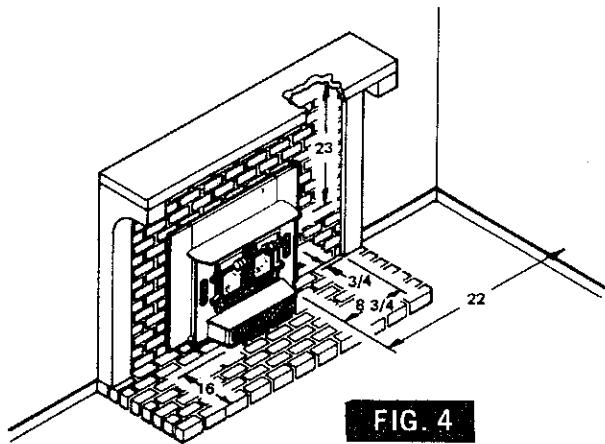

**FIG. 3**
- DAMPER** - The damper in the masonry fireplace must be removed or blocked open. The handle for the damper should be completely removed so that it cannot accidentally cause the damper to close when the Fireplace Insert is installed. (See Fig. 3).
- LEVELING** - The Fireplace Insert must be level when it is installed to assure a uniform burn and to facilitate a proper fit of the trim to the front of the masonry fireplace. In addition to being level, the Fireplace Insert should be flush with the hearth extension so that the Fireplace Insert can easily slide into or out of the fireplace opening. A method is shown in Fig. 3 for making the Fireplace Insert level and flush with the hearth extension: